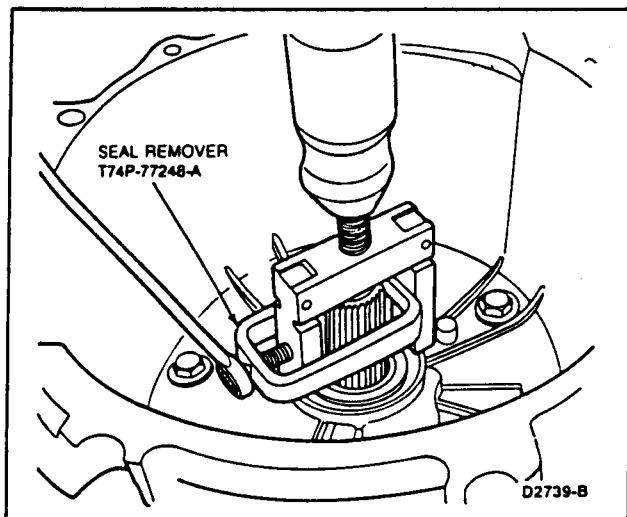

FIG. 18 Pump Oil Seal Removal
8. Using Seal Remover T74P-77248-A or equivalent with a spanner (Fig. 18), remove hydraulic pump oil seal.